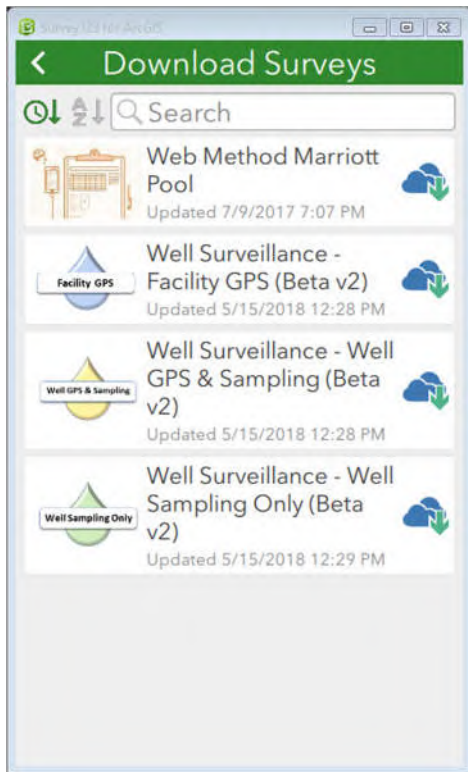

Figure 4- Survey123 Download Surveys Screen
4. Click the "Get Surveys" button. This will open the "Download Surveys" screen (Figure 4) of the application.